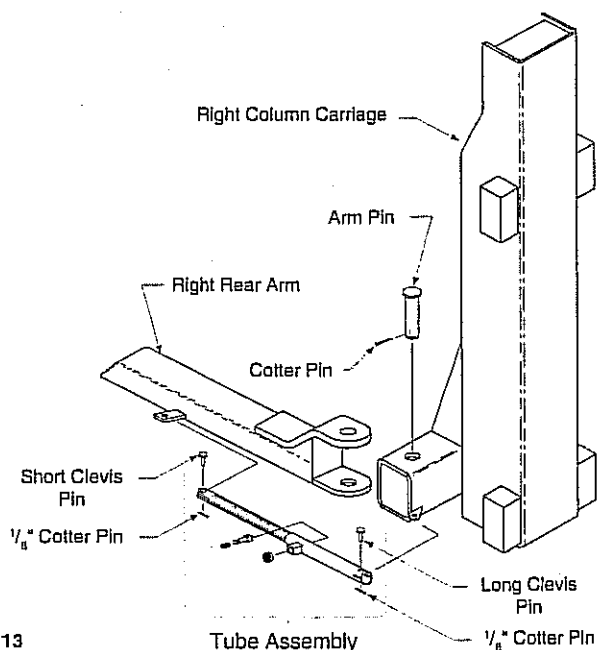

Fig. 13
7. **Superstructure:** Raise carriage to a convenient height. Grease swivel arm pins and holes. Install arms, per Fig. 13. Install $1\frac{1}{2}$ " diameter arm pins and $\frac{3}{16}$ " x 2" cotter pins. Install arm restraint assemblies to arms and carriage as shown in Fig. 13.
Note: Right hand parts are shown, Fig. 13, left hand parts assembled just opposite.